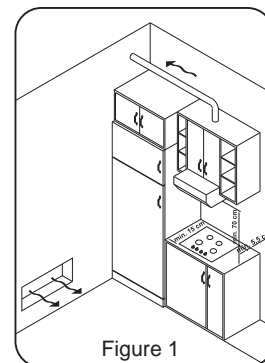

Figure 1
- If the Trio is fitted next to a cabinet on either side, the distance between the Trio and the cabinet must be at least 15 cm (see Figure 1); while the distance between the Trio and the rear wall must be at least 5,5 cm.
The distance between the Trio and any other unit or appliance above it (e.g. An extractor hood) must be no less than 70 cm (Figure 1).
The inlet hose must be connected to a tap so that the water supply can be cut off when the machine is not in use (fig.1). The dishwasher inlet hose is fitted with a 3/4" threaded connector (fig.2). The inlet hose "A" should be tightly connected to a 3/4" tap "B".